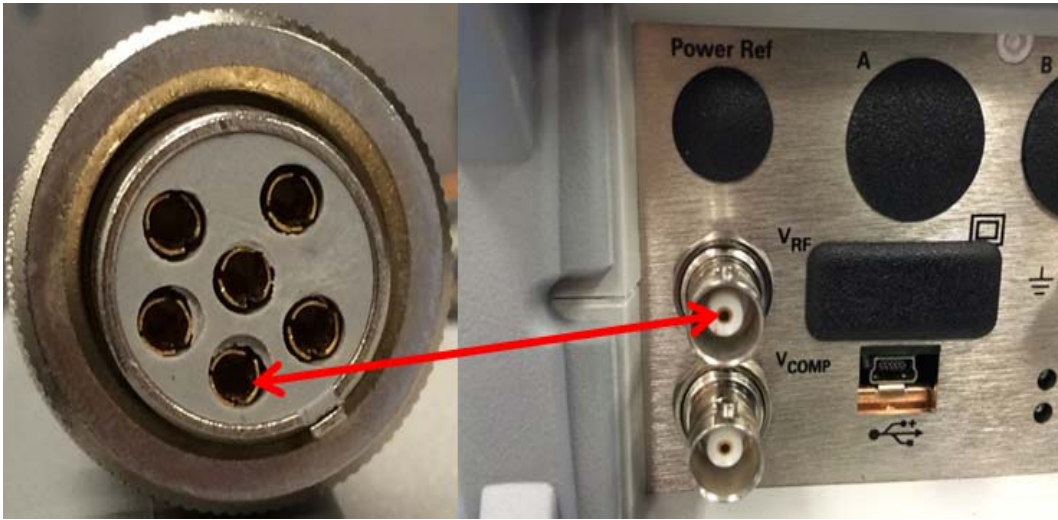

Figure 3-8. 100, 200, 300 and 400 Ohm Bridge Resistance Measurement
3. Refer to Figure 3-8. Measure the resistance from the Vrf BNC center conductor on the rear of the N432A to Pin 1 of the sensor cable.